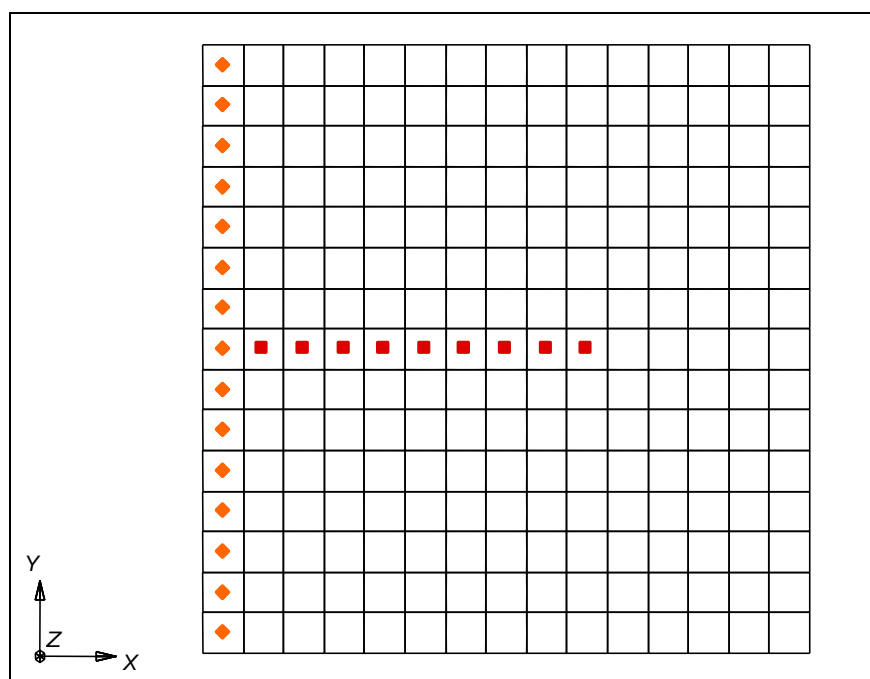

Figure 4 Cells to be selected
4. Hold down the *Shift* key to invoke the multi-select mode and select the cells on columns 3-10 of the same row as the cell that was already selected (Figure 4).